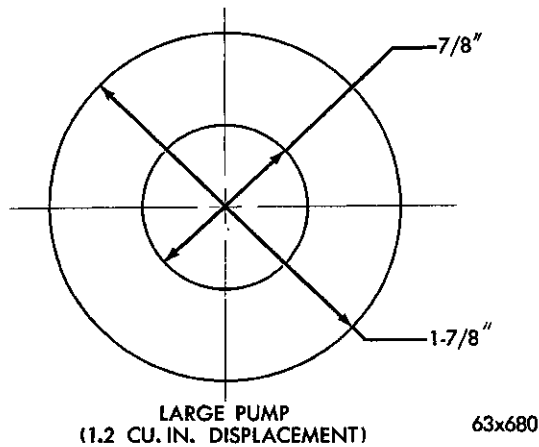

Fig. 18—Slipper Retaining Washer Tool Dimensions
(14) Using a washer of the dimensions shown in Figure 18 drop it over the pulley end of the shaft. This washer is used to keep the slippers flush with the end of the rotor.